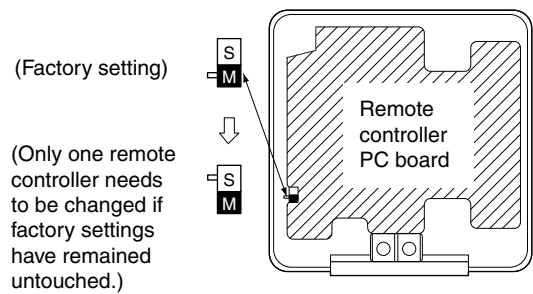

Fig. 29
- (2) Turn the **MAIN/SUB changeover** switch on one of the two remote controller PC boards to **S**. (Leave the switch of the other remote controller set to **M**.) Refer to Fig. 29